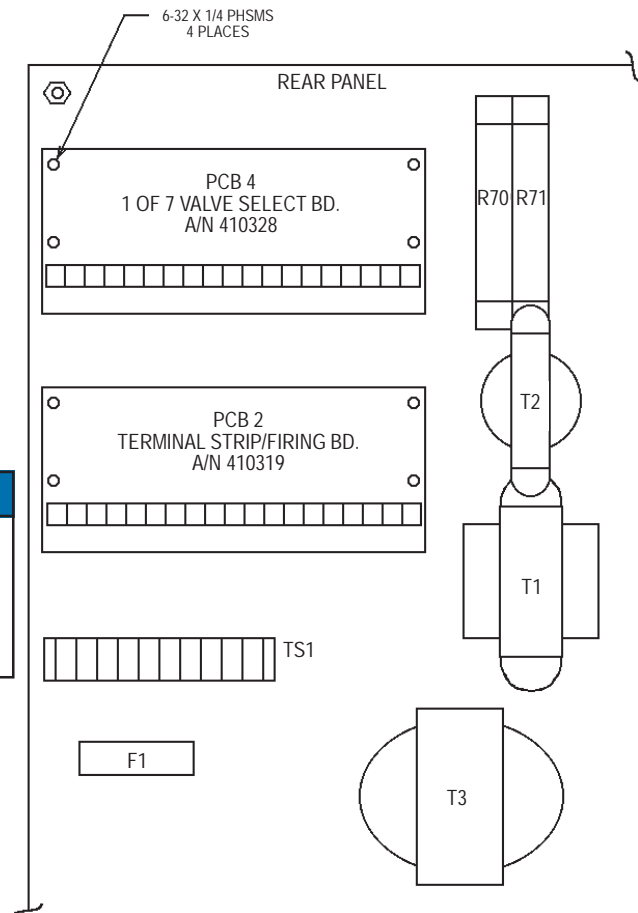

Figure 3. “T/D” or “L” Cabinet mounting detail
3. Mount the 1 of 7 Valve Select PCB (A/N 410328) to standoffs on rear panel using four (4) #6-32 x 1/4 PHSMS, Phil, Brite. See Figure 3.